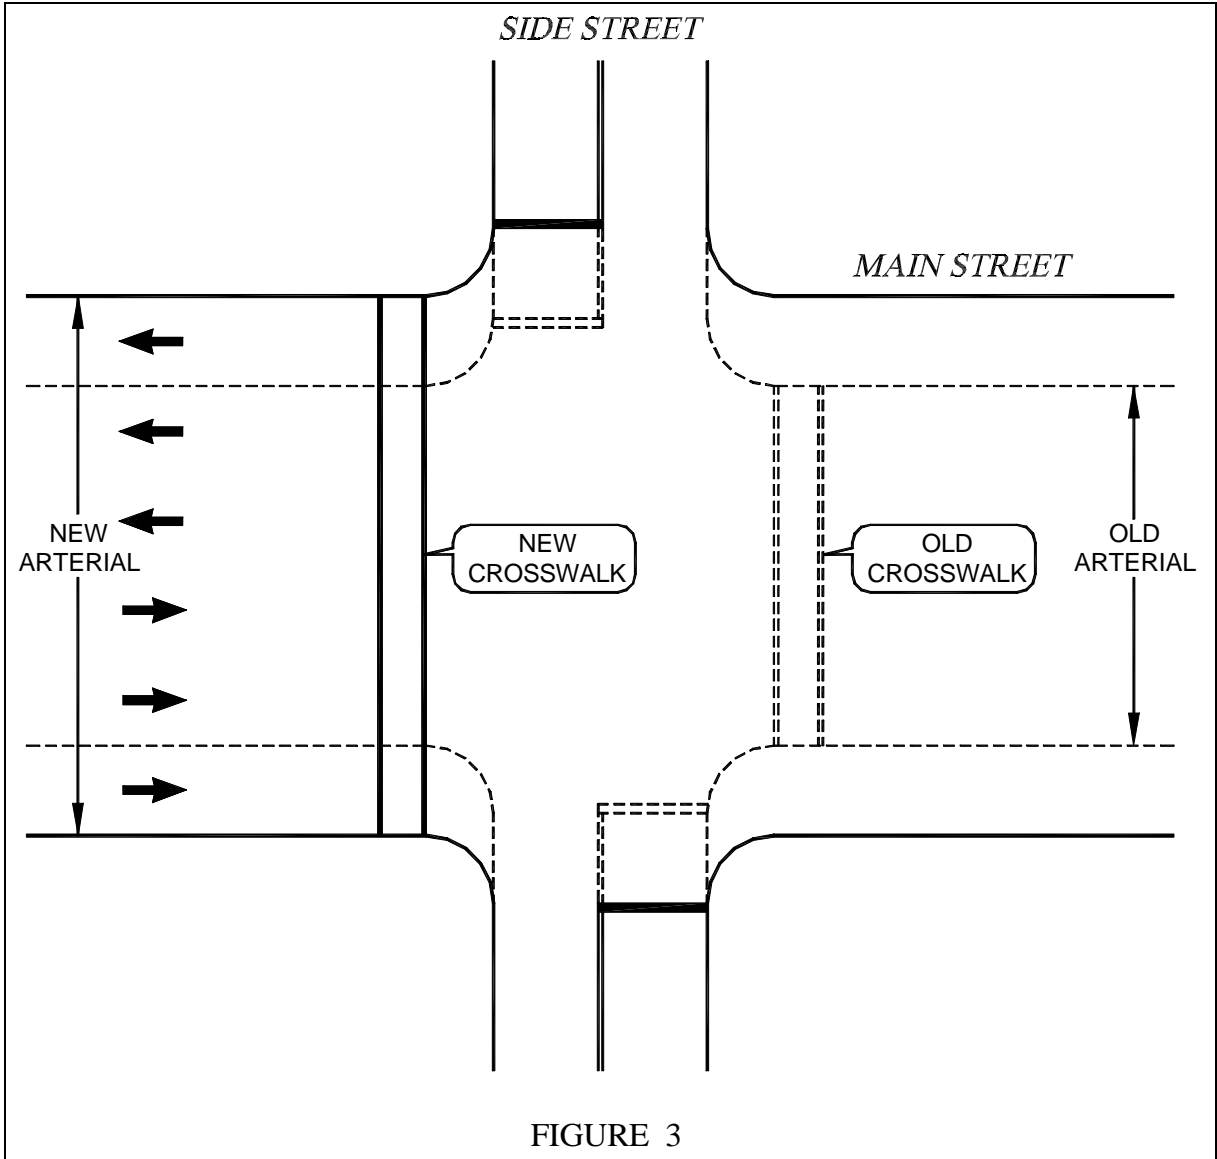

FIGURE 3
2. **Modification of Pedestrian Intervals** - As the arterial is widened, the distance that pedestrians must traverse is also increased and there often becomes a need for a longer flashing DON'T WALK interval (see Figure 3). In addition, certain crosswalks might be temporarily closed during construction and the associated pedestrian heads will need to be bagged.